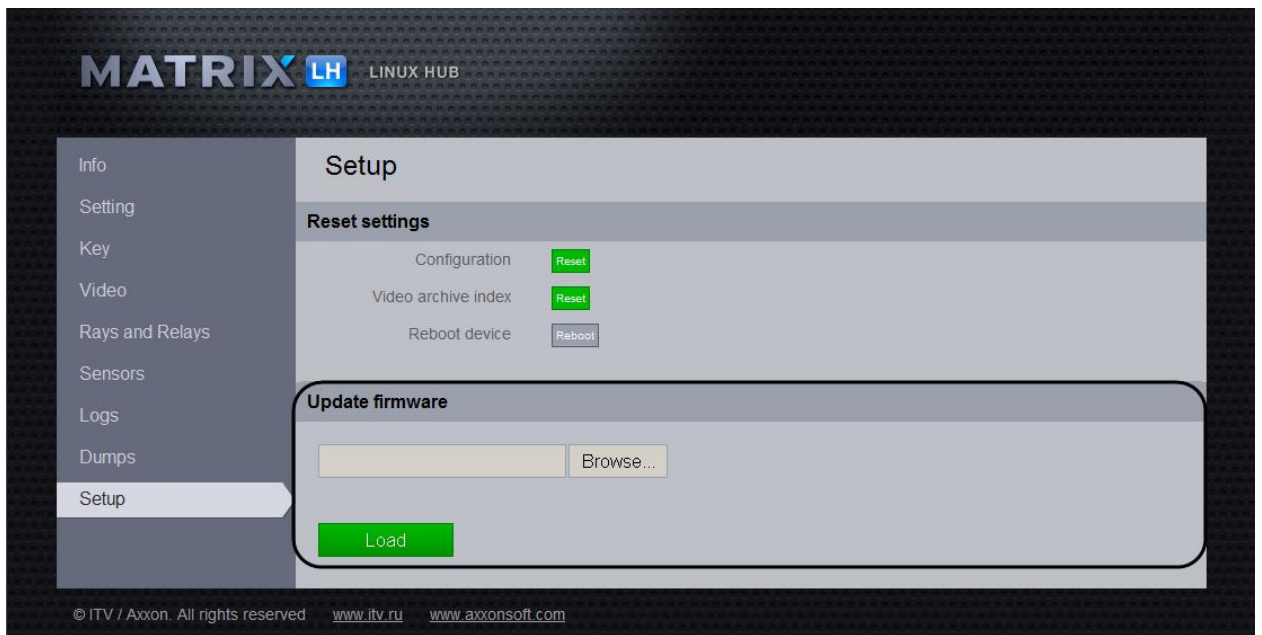

Figure 7.4-1 Updating the Linux Server (LinuxHub) firmware via the web interface
1. Go to the **Setup** tab (Figure 7.4-1).
2. Click **Browse** to select the firmware file (Figure 7.4-1).
4. Click **Load** (Figure 7.4-1).
5. As the result the firmware is loaded and installed on the LS (LH).
6. Wait till the process ends and then restart the LS (LH).